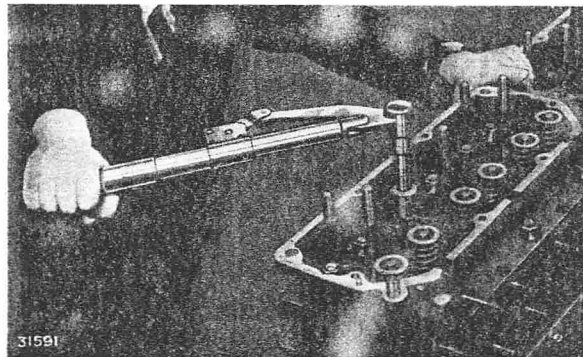

FIG. 9. TIGHTENING CYLINDER HEAD NUTS USING A TORSION SPANNER
10. To ensure freedom from distortion and gasket leaks, the cylinder head nuts must be tightened down evenly in a definite order, starting at the centre and working outwards, as shown in Fig. 17. First tighten down with a short spanner, then with a torsion spanner set at 155 to 160 lb. ft. (21.9 to 22 kg m.), see Fig. 9.